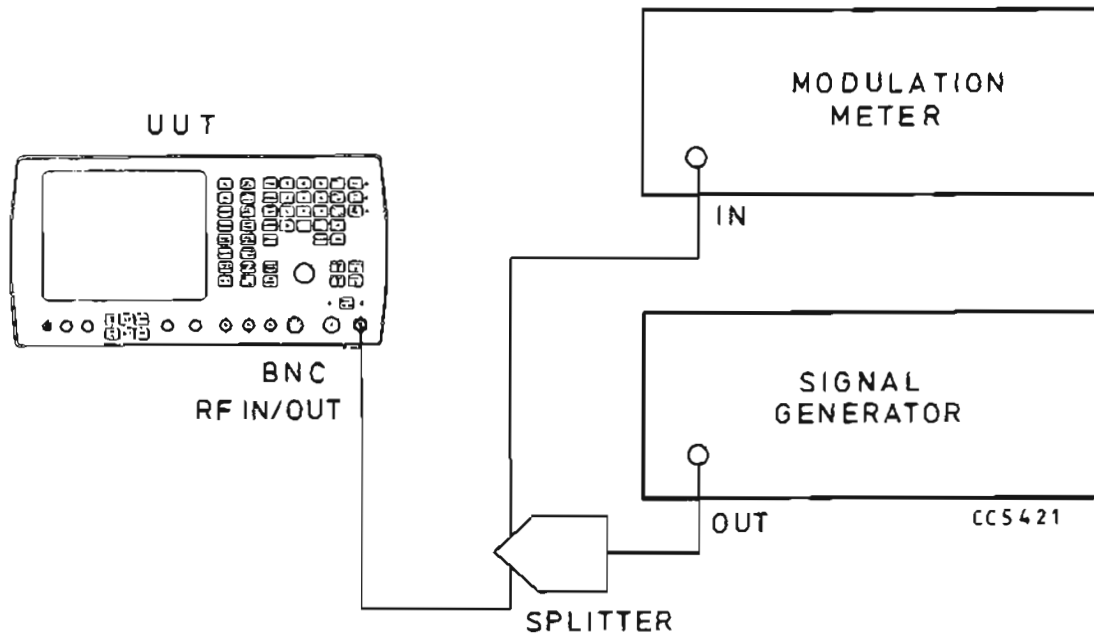

Fig. 4 Test equipment connections for modulation meter a.m. & f.m. monitor accuracy performance checks
- (1) Connect the equipment as shown in Fig. 4.
- (2) Set the u.u.t. to TX, FM, 0.3 - 3.4 kHz BAND PASS filter, distortion/SINAD/SN off, b.n.c. input socket.
- (3) Set the signal generator to carrier frequency 500 MHz, level 13 dBm, 25 kHz f.m., 1 kHz internal modulation rate.
- (4) Set the modulation meter to monitor f.m. in a 0.3 to 3.4 kHz bandwidth.
- r (5) Check that the f.m. level indicated on the u.u.t. display is within ±6% of reading ±1 digit of modulation deviation indicated on the modulation meter.
- (6) Repeat the above for random carrier frequencies from 1.5 to 1000 MHz and random deviation between 0 and 25 kHz.
- (4) Connect the signal generator to the u.u.t. N-type input socket (see Fig. 4) and check that the u.u.t. modulation meter reads 10 kHz f.m. deviation.
- (5) Set the u.u.t. to one port duplex mode and repeat the above checks with the signal generator output set to 20 mW.